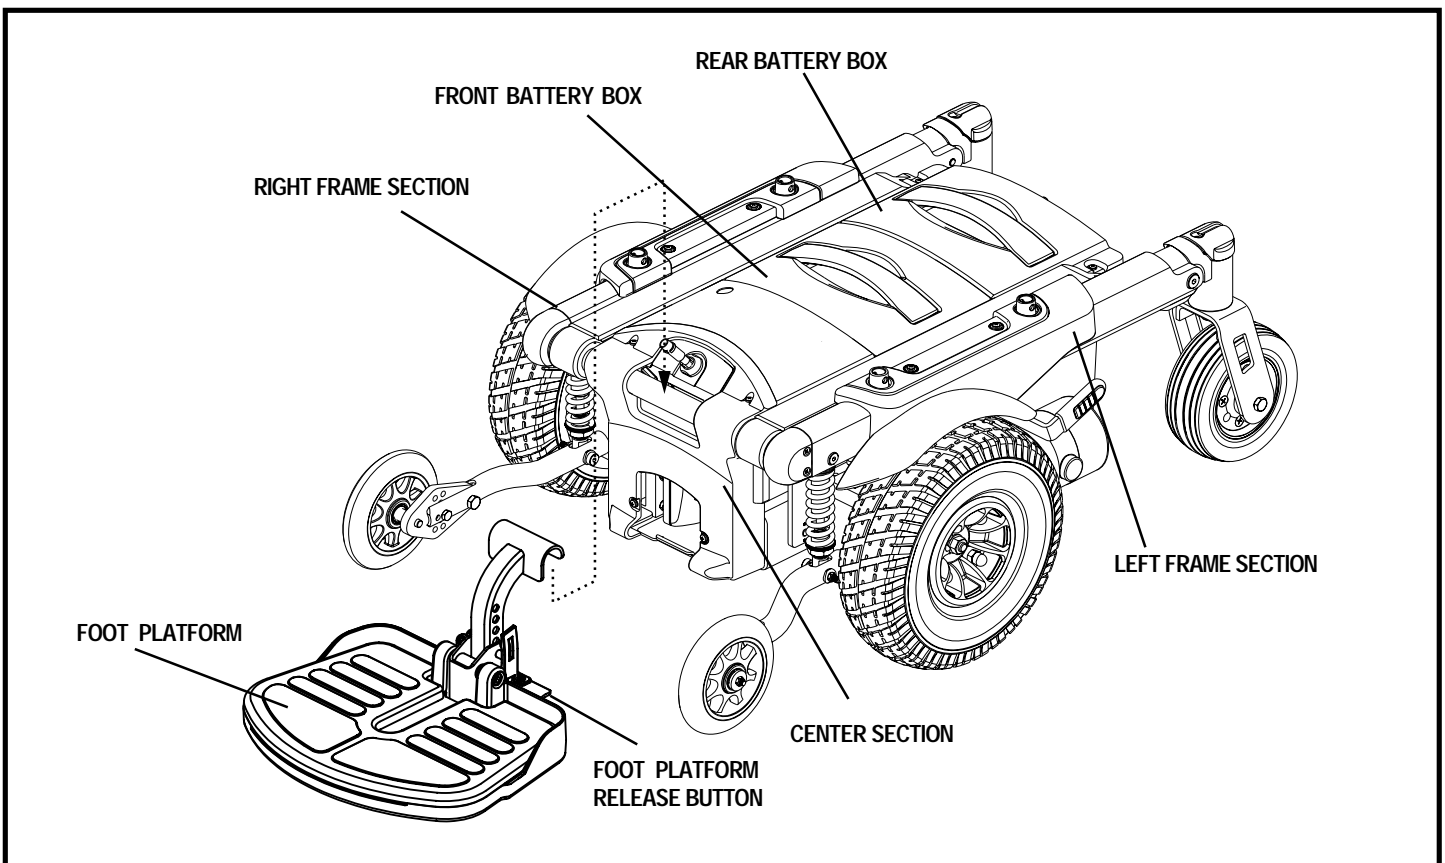
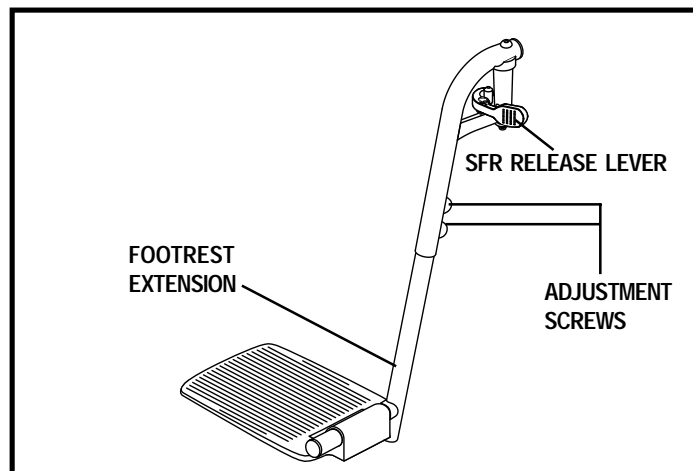

Figure 12. Quantum Dynamo 1107 Power Base Parts (Foot Platform Shown)
Figure 19. Swing-Away Footrests
The Quantum Dynamo 1107 power base disassembles into six parts for easy transportation and storage. See figure 12.
4. Press the foot platform release button and lift off the foot platform. See figure 12. See figures 19 and 20 for leg rest removal.
1. Push in the release lever. See figure 19.
1. Remove the two adjustment screws from the back of each footrest extension. See figure 19.